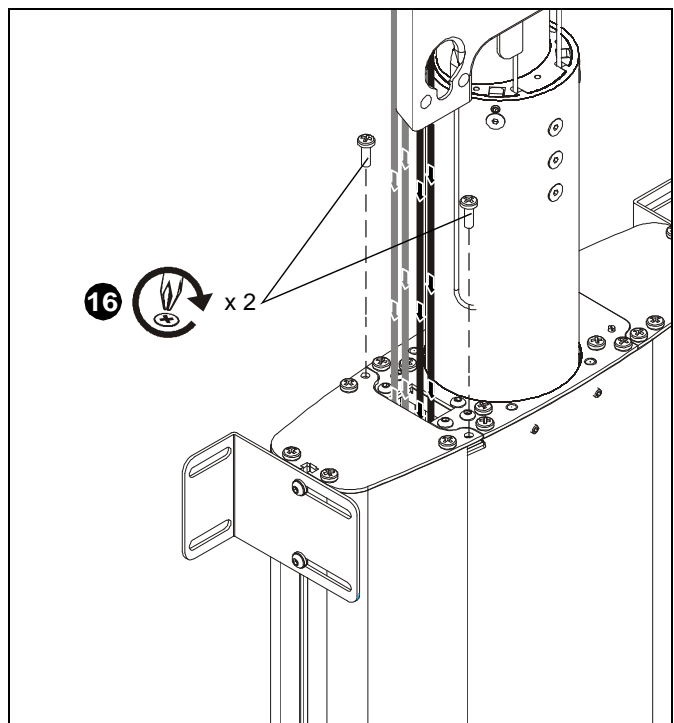

Figure 13
16. Secure cable guide side cover to CM2 mount using two screws (removed in Step 1). (See figure 13)